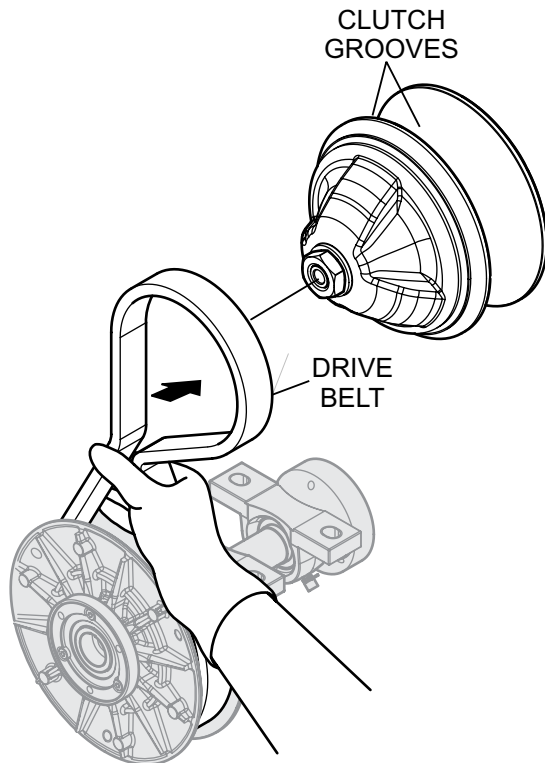

Figure 20. Spare Drive Belt Placement (Clutch)
- Place spare drive belt onto clutch as shown in Figure 20